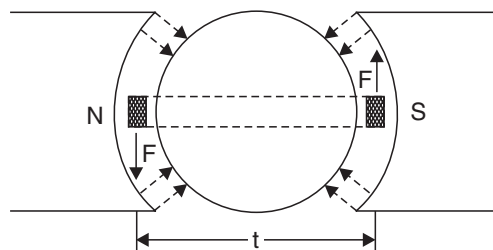

Fig. 12
Deflecting torque. Refer to Fig. 12. When current is passed through the coil, forces are set up on its both sides which produce *deflection torque*. If I amperes is the current passing through the coil, the magnitude of the force (F) experienced by each of its sides is given by